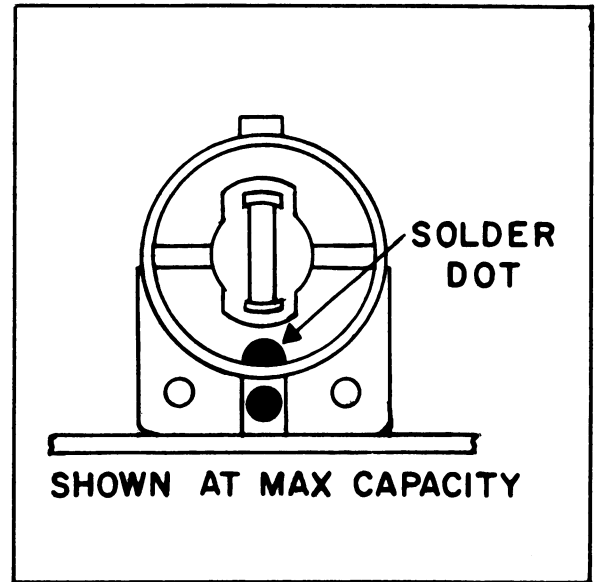

Figure 5 - Presetting Trimmers
PRESETTING TRIMMERS.	Figure 5
4. Preset trimmers C2372, C2374, C2379, and C2382 (Figure 5) to approximately the correct setting (maximum capacity is low end of band). Trimmers are at maximum capacity when solder dot on ceramic rotor is closest to chassis.